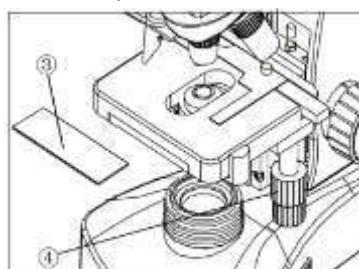

Fig.17
3.2.2 Placing Specimen (Fig.17)